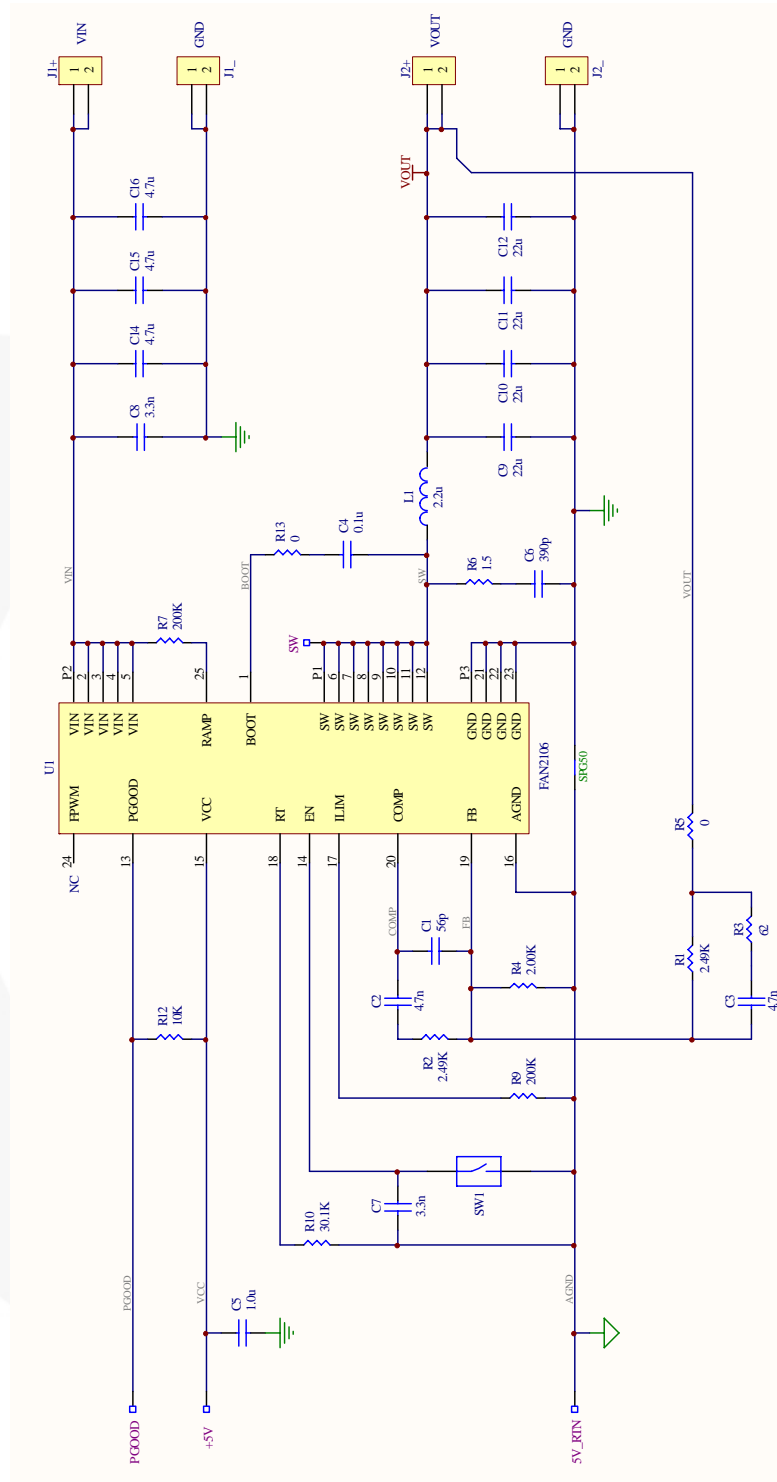

Figure 2. FAN2106 Evaluation Board Schematic
1. Establish connections to test equipment as shown in the schematic in Figure 2. Use suitable diameter wires and connectors to avoid excessive voltage drop or temperature rise.